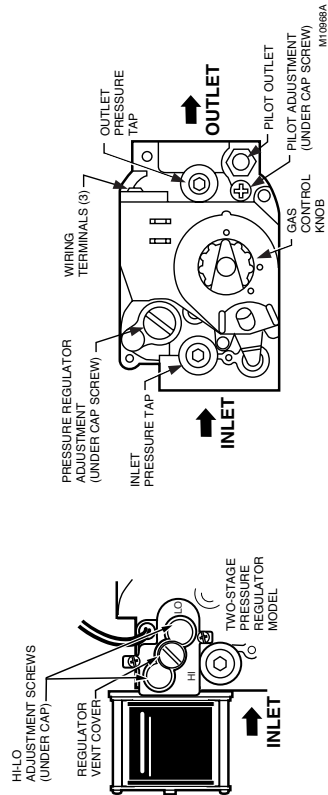
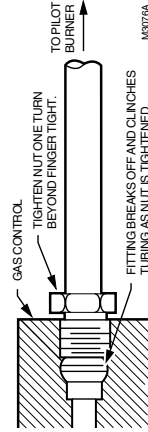

Fig. 6. Top view of gas control.
Fig. 7. Always use new compression fitting.
3. Unscrew the brass compression fitting from the pilot outlet (Fig. 6). Slip the fitting over the tubing and slide out of the way. See Fig. 7.
1. Remove pilot adjustment cover screw. See Fig. 6.
- With main burner operating, check the control flow rate using the meter clocking method or check pressure using a manometer connected to the outlet pressure tap on the control. See Fig. 6.
- Using a screwdriver, turn the inner adjustment screw (Fig. 6) clockwise  to increase or counterclockwise  to decrease the gas pressure to the burner.
- With main burner operating, check the gas control flow rate using the meter clocking method or check pressure using a manometer connected to the outlet pressure tap on the gas control. See Fig. 6.
Using a screwdriver, turn the inner adjustment screw (Fig. 6) clockwise  to increase or counterclockwise  to decrease the gas pressure to the burner.
- Remove the pressure regulator adjustment cap (Fig. 6).